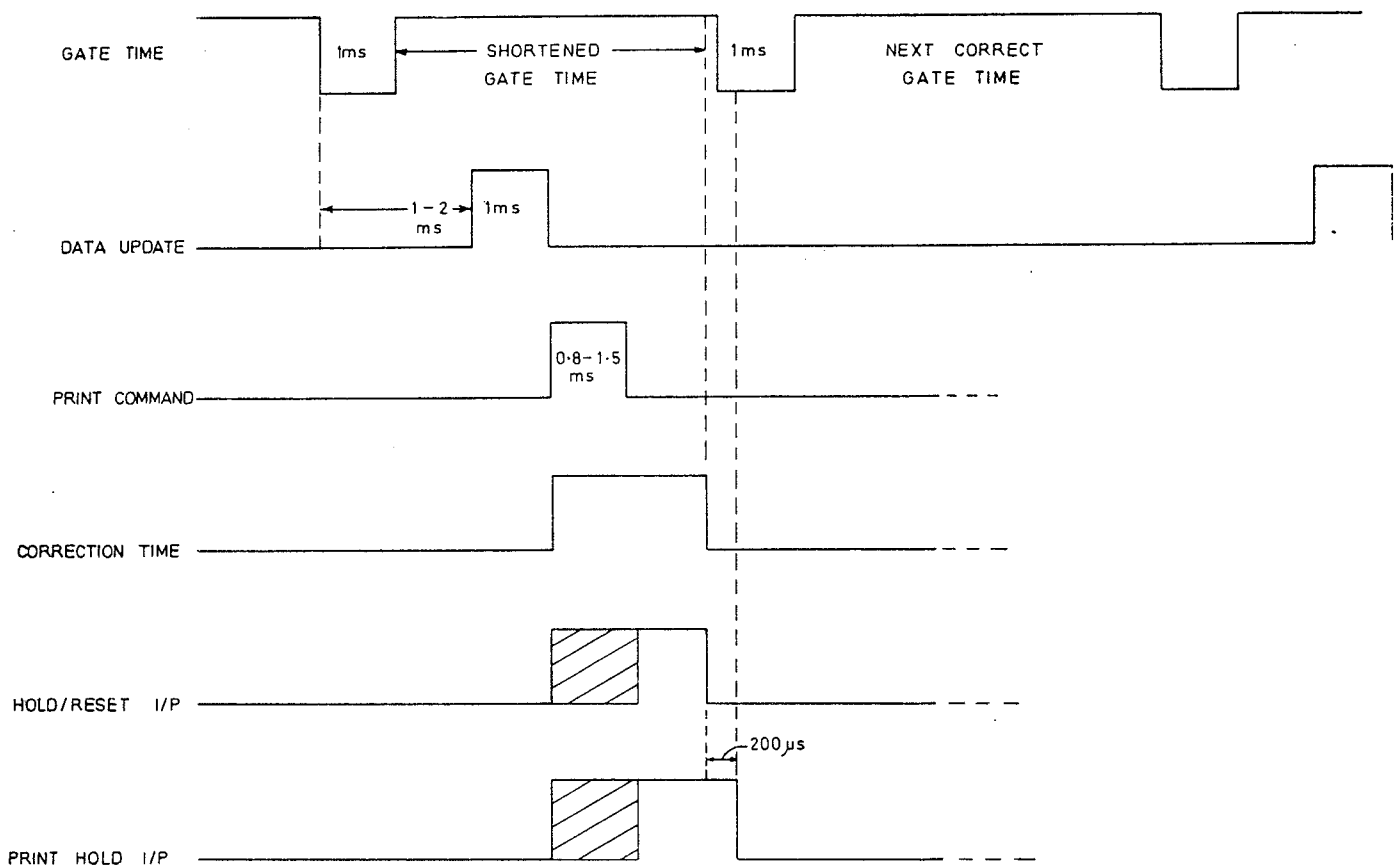

Fig. A4
18. An alternative to para 17, particularly when fast cycle times are desired, is to connect the Hold signal to the Hold/Reset input. If this is done, a stretched version must additionally be applied to the print Hold input (pin 49). The Hold signal should be at least as long as the correction process, and the signal applied to the Print Hold input should be approximately  $200\mu\text{s}$  longer than that applied to the Hold/Reset input. This is to prevent the interface responding to the end of gate time produced by the reset. For cases where the correction time is short (less than the Print Command pulse width) this may be implemented by linking the Print Command output (pin 48) to the Hold/Reset input (pin 24) and by applying a stretched version of the Print Command to the Print Hold input (pin 49). In this way cycle times as short as 'Gate Time + 5ms' can be achieved. This is illustrated in Fig. A4.